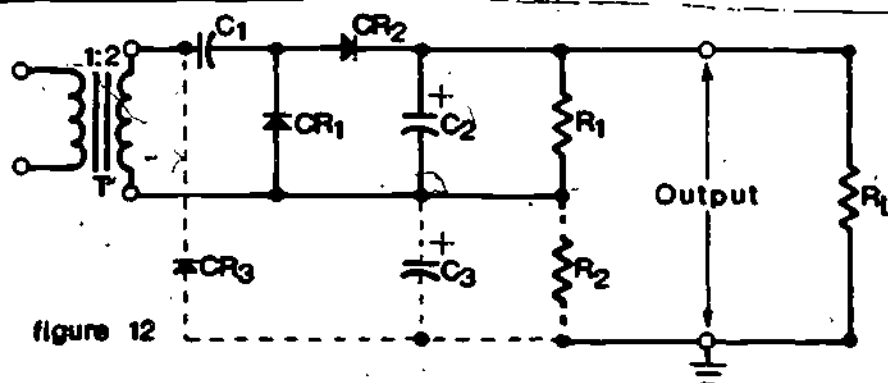

figure 12
14. Your understanding of half-wave voltage doublers will now help you understand how voltage triplers work. Figure 12 shows the schematic diagram for a voltage tripler: